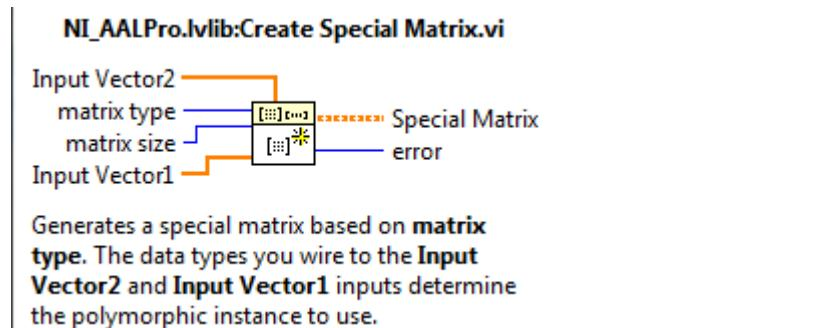

Fig. 6. Create Special Matrix.vi.
- In order to generate autocorrelation matrix of the input, you can use **Create Special Matrix.vi** shown in Fig. 6 with **matrix type** as **Toeplitz**.